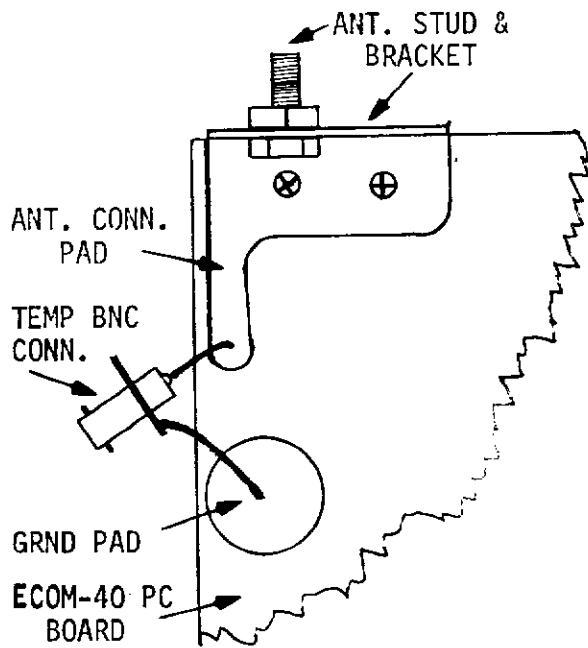

Figure 4-3. Temporary Ant. Conn.
1. Remove BACK and FRONT covers as explained in Section 4-5, so that component side of PC board is accessible. For ease of test equipment connection, a female BNC connector may be soldered temporarily to the antenna connector copper-pad area & the adjacent ground area. See Figure 4-3.